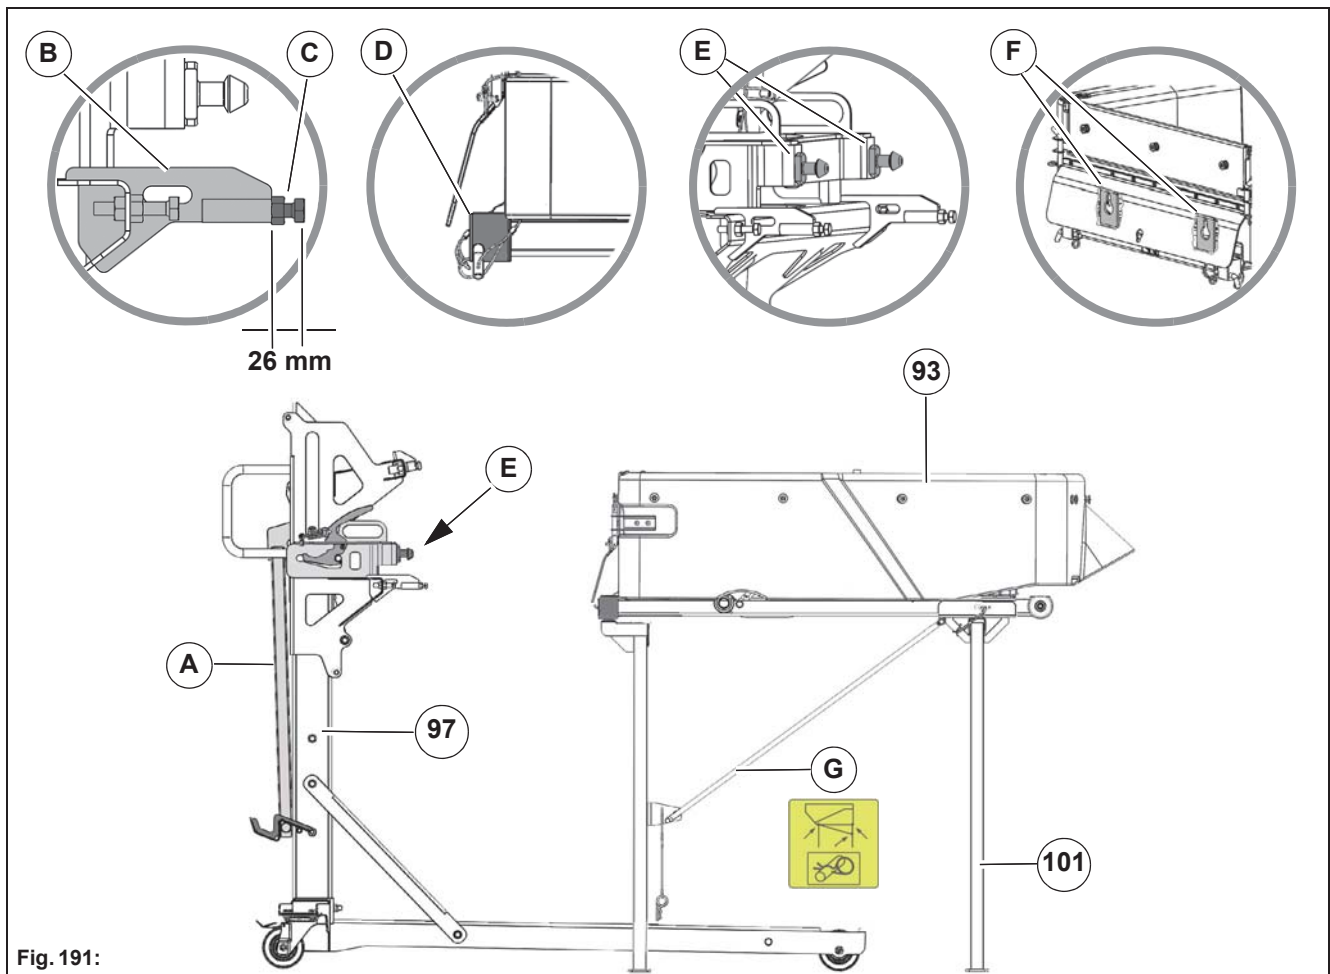

Fig. 191:
<p>Danger Risk of injury due to tilting over! Make sure that the cross strut Fig. 191-G has been inserted when transporting the loading platform on the supports Fig. 191-101. Secure the supports with bolts and splints.</p>
5. Push the trolley with the lower positioning aid **Fig. 191-B** against the fixed bearings **Fig. 191-D** of the loading platform. The screw **Fig. 191-C** must be adjusted to 26 mm!
6. Carefully lower the lever **Fig. 191-A** of the trolley and make sure that the locking pins **Fig. 191-E** sit in the holders **Fig. 191-F** of the loading platform. Lock the lever **Fig. 191-A**.